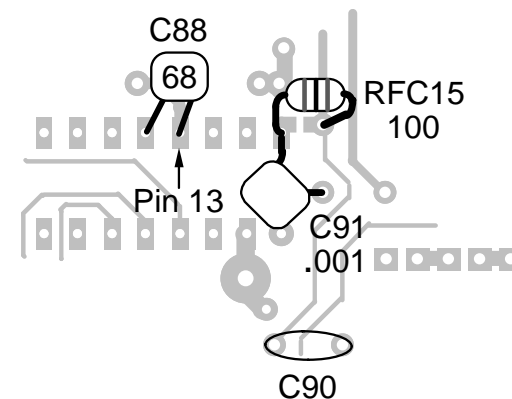

Figure 6-14c
- Solder C91 (.001 μ F, "102") to the two pads shown in Figure 6-14c. Use short leads.
- Locate the 100 μ H RF choke, RFC15 (brown-black-brown). This choke may be the same size, or nearly so, as the other chokes. When installing adjust the leads to reach the pads shown in Figure 6-14c.
- Locate the crystals used on the RF board: 12.096 MHz (1), 4.9152 MHz for BFO (2) and 4.9136 MHz for crystal filters (7). **Do not mix the BFO and filter crystals, which have different characteristics.**